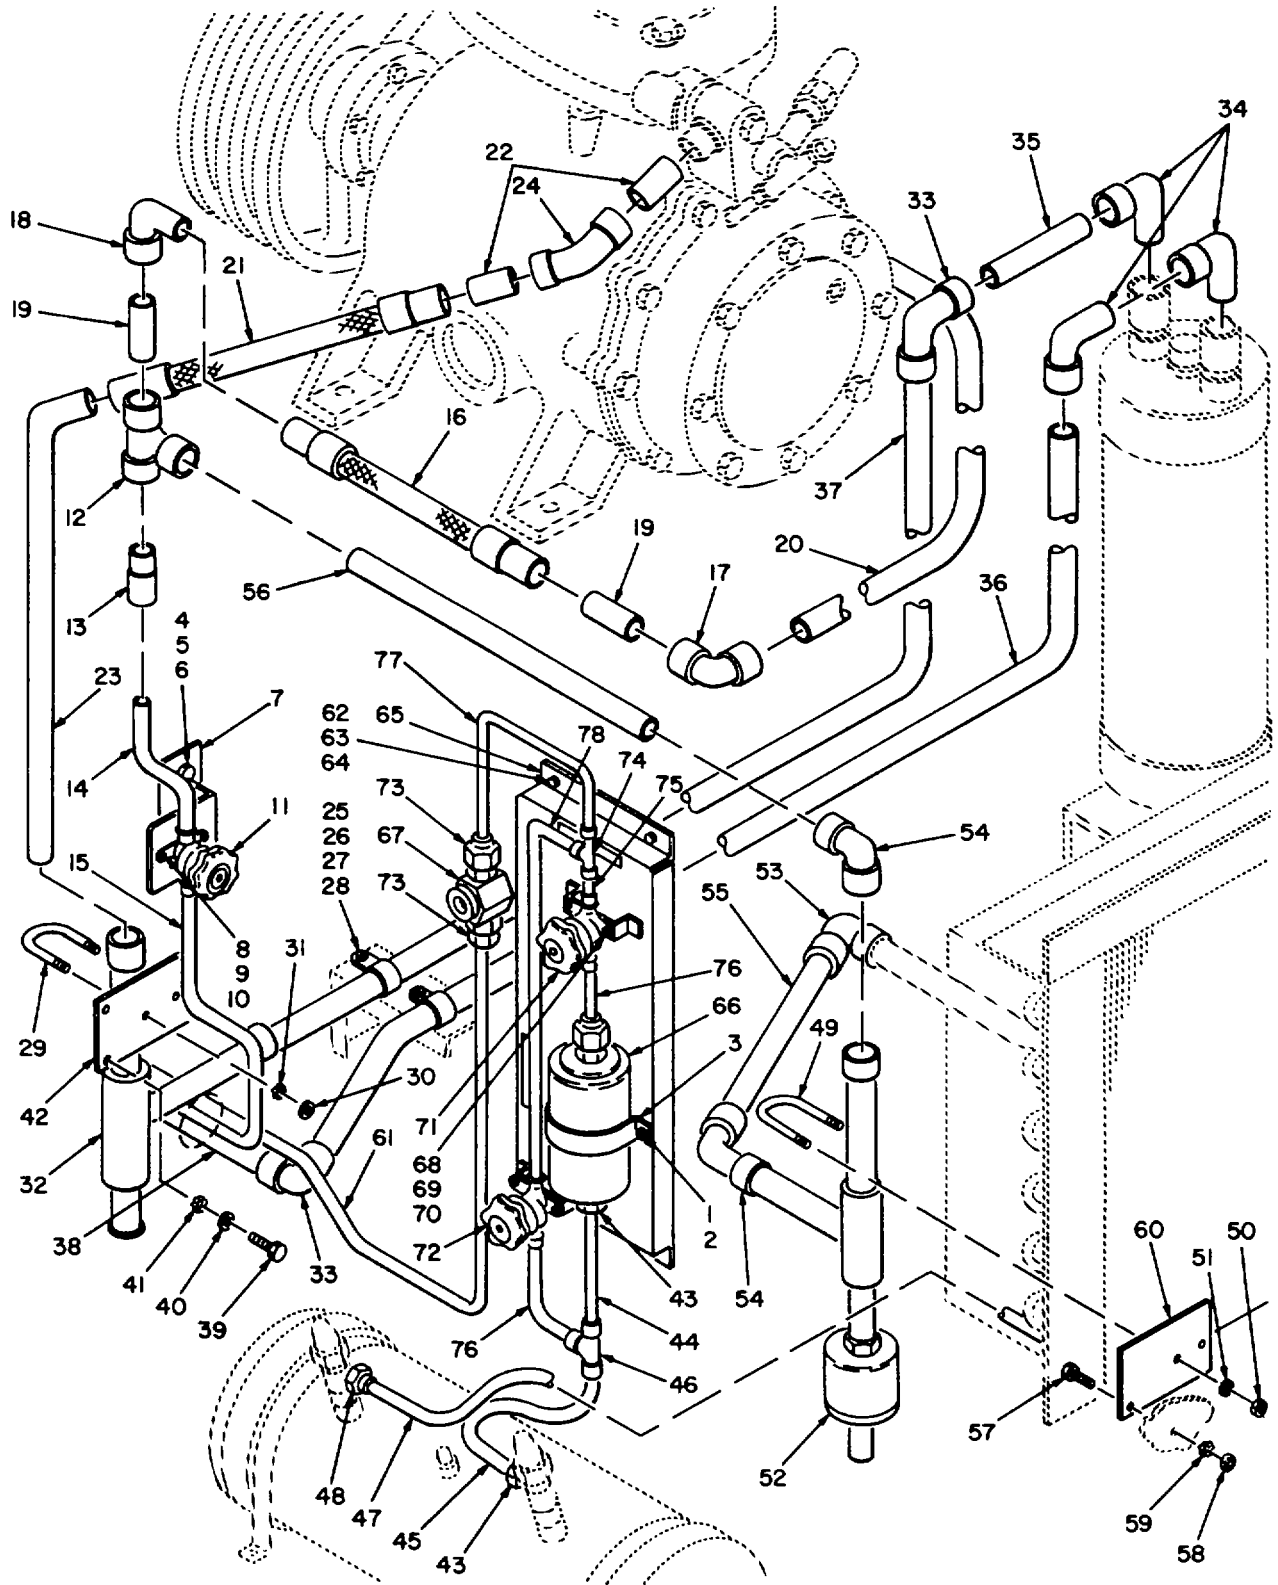

Figure 7-2. Refrigerant Piping and Valves (Sheet 1 of 2)
- (1) Operate unit with 70°F (21.1°C) air passing through evaporator coil for five minutes and read suction pressure gauge.
- (2) If pressure needs adjustment, remove protector cap from valve adjustment and then using screwdriver, adjust the valve. Turn adjustment clockwise to raise pressure and counterclockwise to lower pressure as observed on suction pressure gauge.
b. Removal (fig. 7-2).
- (1) Refer to paragraph 7-1 and pump down refrigeration system.
- (2) Remove U-bolt and attaching hardware (29, 30 & 31) and bracket (42) with hardware (39, 40 & 41).
- (3) Unsweat the two copper tubes (23 & 37) joining the valve (32) to the refrigeration system and remove valve.